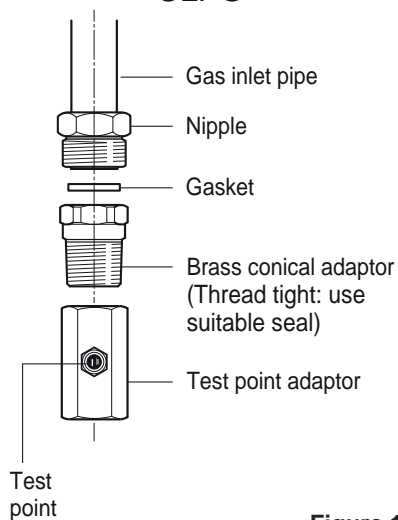

Figure 11a
- Before connecting the appliance to the gas main, mount the brass conical adaptor onto the gas inlet pipe, upon which the gasket has been placed (figs. 11a - 11b). Conical adaptor and gasket are supplied with the appliance (packed with conversion kit for use with Natural gas or ULPG).
- For ULPG models the gas supply is connected to the test point adaptor which is supplied with the appliance (fig. 11a) and ensure that the supply pressure is regulated to 2.75 kPa.
- If the cooker is suitable for use with Natural gas and must be converted for use with ULPG, before connecting to the gas mains remove the appliance gas regulator and replace with test point adaptor (see figs. 11a - 11b).
- If the cooker is suitable for use with ULPG and must be converted for use with Natural gas, before connecting to the gas mains remove the appliance test point adaptor and replace with gas regulator (see figs. 11a - 11b).